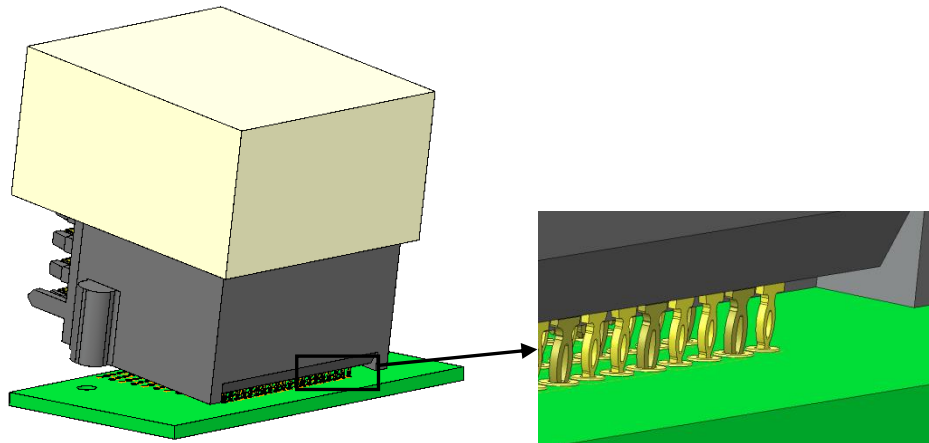

Figure 31: Last Row of EON tips Inserted into Last Row of PCB Vias
- Hold the connector at a slight angle so that the tips of the last row of press fit tails can be aligned and inserted into the last row of via holes on the PCB. Refer to figure 31.